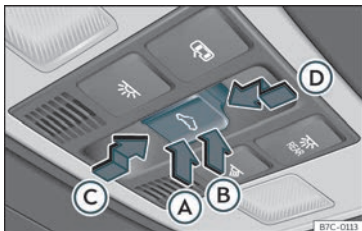

Fig. 84 On the interior roof lining: sunroof button.
The ☁ button » Fig. 84 has two levels. The first level switches the sunroof to the tilted position, opening or closing it fully or partially.
the  button **>>> Fig. 84** to the second level in the direction of arrow **>>> Fig. 84 ①** until the sunroof closes completely.